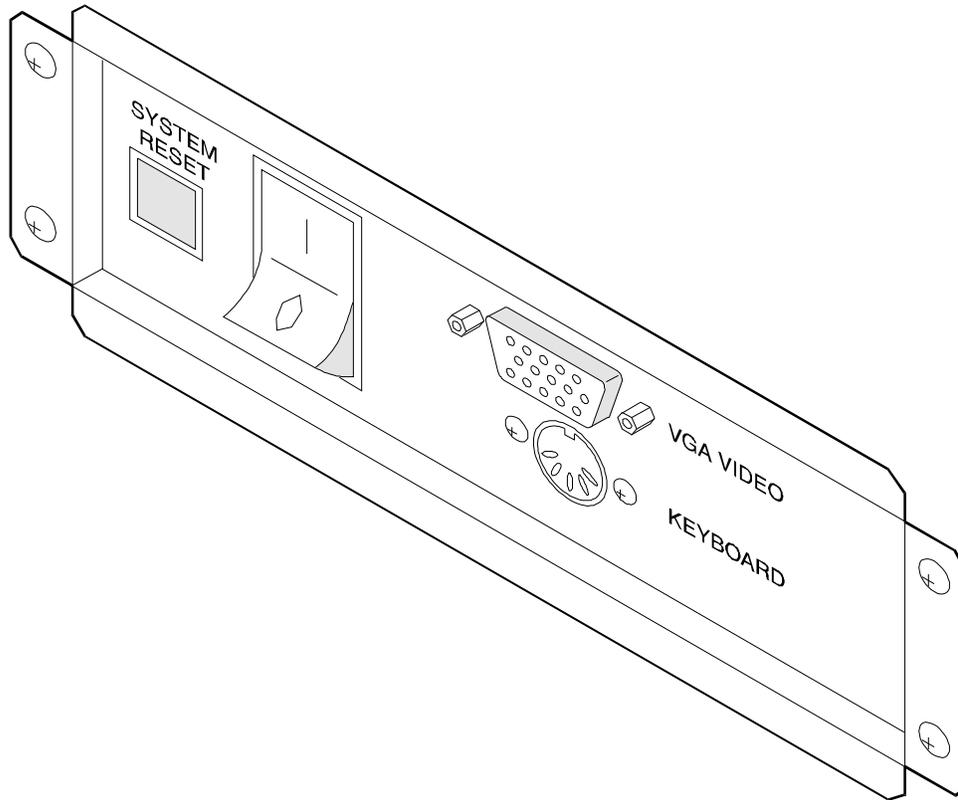

Figure 4-6. MAP/100 Power Switch
3. Turn off the power switch on the lower front of the MAP/100 peripheral bay (Figure 4-6).